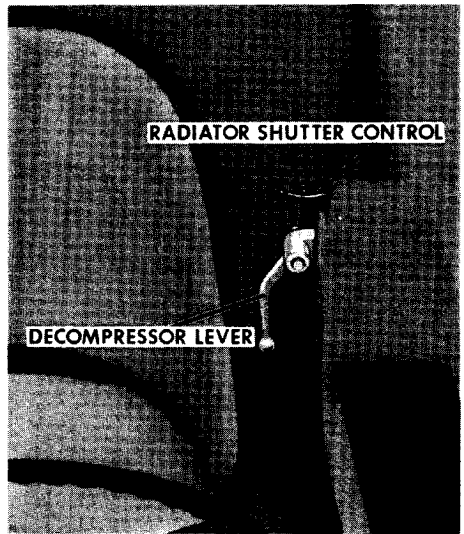

Figure 24
**RADIATOR SHUTTER CONTROL** (Extra Equipment) - Figure 24. To close the shutters partially or fully, pull the control out to the required position, and turn the handle clockwise.